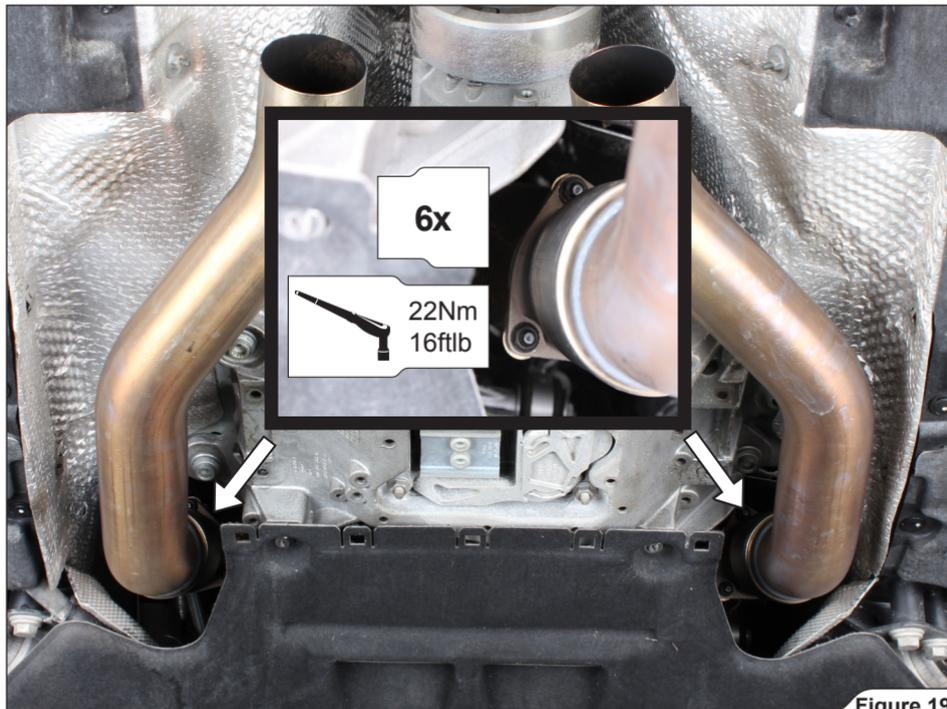

Figure 19
4. Install the Akrapovič link pipes onto the stock down pipes, using stock flange nuts (Figure 19).